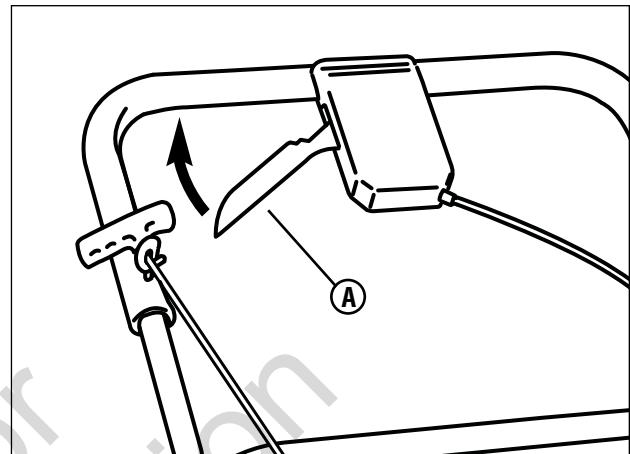

Figure 12: Operating the front wheel drive system
2. **Models SP2265 & NSP2265:** Pull the drive lever (A, **Figure 12**) completely back. The drive system is now engaged.